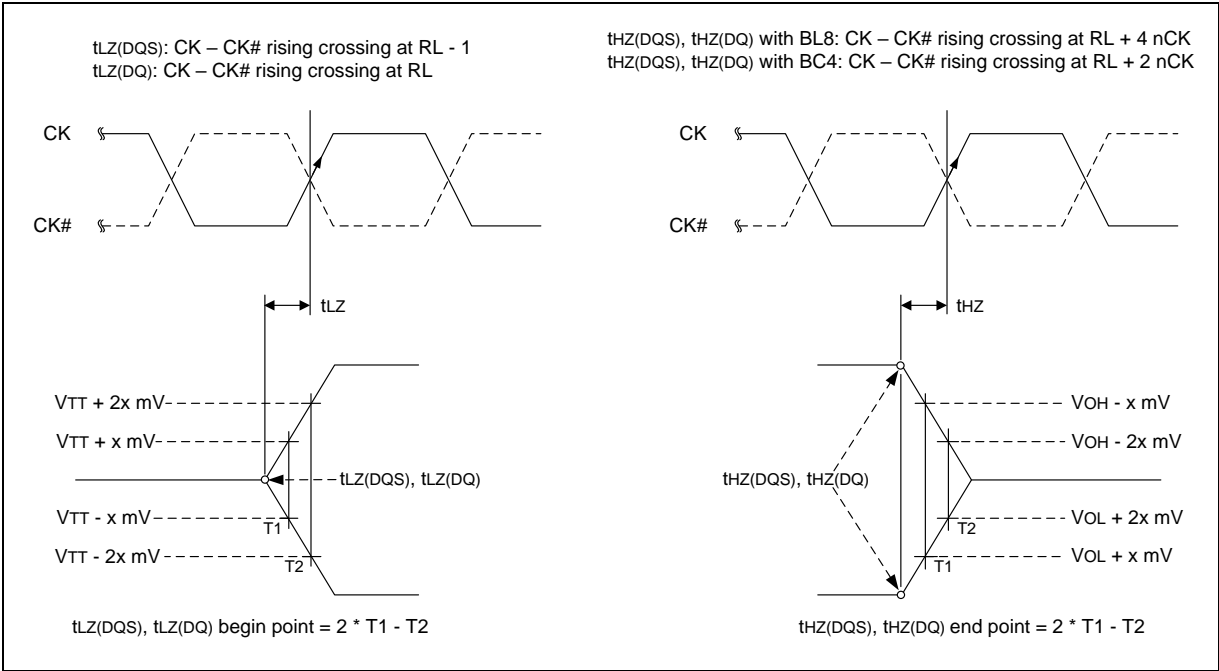

Figure 26 – tLZ and tHZ method for calculating transitions and endpoints
$t_{LZ}(DQS)$ ,  $t_{HZ}(DQS)$  for preamble/postamble (see section 8.13.2.3 and Figure 26).
8.13.2.3 tLZ(DQS), tLZ(DQ), tHZ(DQS), tHZ(DQ) Calculation
tHZ and tLZ transitions occur in the same time window as valid data transitions. These parameters are referenced to a specific voltage level that specifies when the device output is no longer driving tHZ(DQS) and tHZ(DQ), or begins driving tLZ(DQS), tLZ(DQ). Figure 26 shows a method to calculate the point when the device is no longer driving tHZ(DQS) and tHZ(DQ), or begins driving tLZ(DQS), tLZ(DQ), by measuring the signal at two different voltages. The actual voltage measurement points are not critical as long as the calculation is consistent. The parameters tLZ(DQS), tLZ(DQ), tHZ(DQS), and tHZ(DQ) are defined as singled ended.